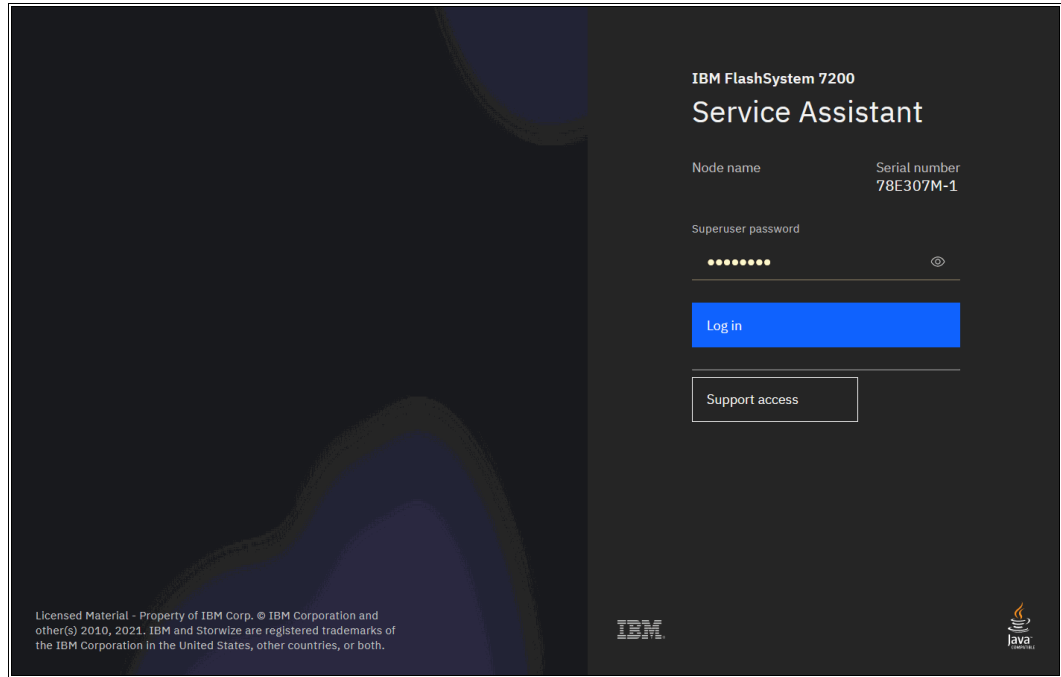

Figure 3-4 Logging to Service Assistant by way of the technician port
3. The login to Service Assistant window opens (see Figure 3-4). This window is the first step of initializing the system. Enter the default superuser password (passw0rd) and click **Login**.